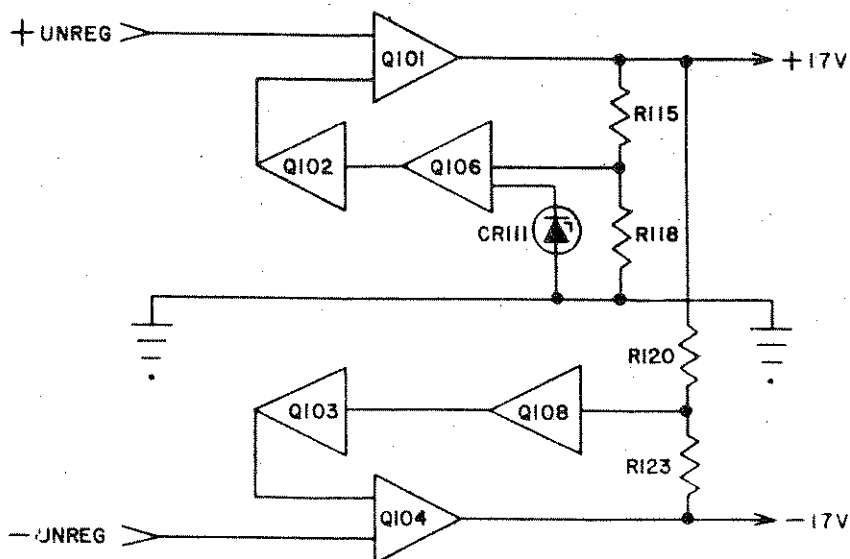

Figure 10. Power Supply
4.9 POWER SUPPLY (See Figure 10)